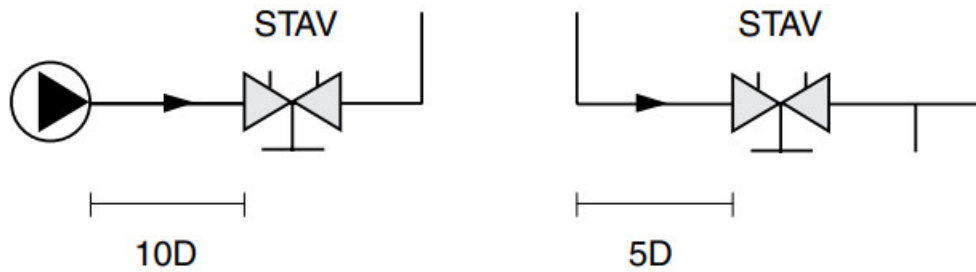

Fig 1. $D = \text{Valve DN}$
2. the piping in the inlet side is straight and has a minimum length according to Fig. 1.
N.B. To ensure flow measurement accuracy it is essential that the piping in the inlet side is straight and has a minimum length according to Fig. 1.